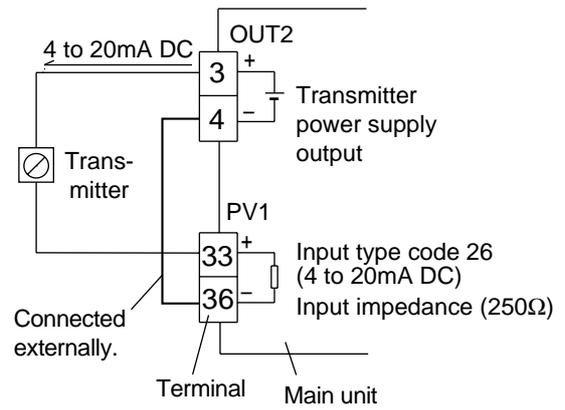

Fig. 6 External wiring for the model with the power supply to the transmitter
- When the transmitter power supply model is selected, the external wiring will be connected as Fig. 6.